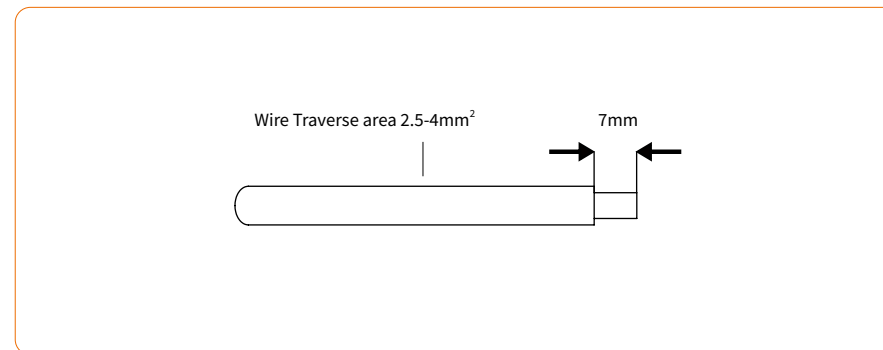

Figure 4-12
- 2) Peel off the DC cable insulation sleeve for 7 mm, as shown in Figure 4-12: